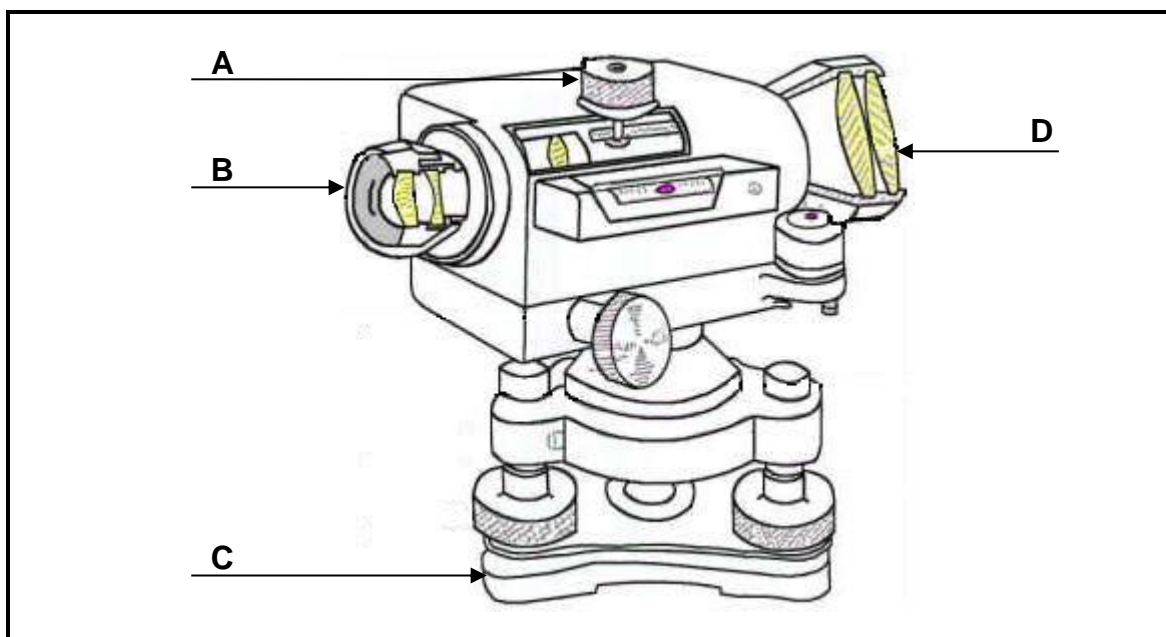

FIGURE 2.4
2.4 Answer the following questions on the tool in FIGURE 2.4.
- 2.4.1 Identify the tool in FIGURE 2.4. (1)